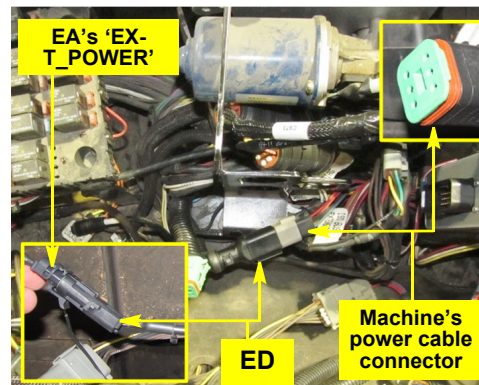

Figure 3c: Power connections
- c. Locate the machine's power cable connector (from beneath the ECU installation—Figure 3c). Connect power cable **ED** to the machine's connector (Figure 3c top/right inset).